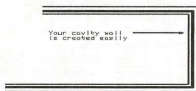

Figure 5
2. Pick the **Exterior** option. This option defines the exterior width, as shown in figure 5. Set the width you desire, such as 6", then press **Enter**.
3. Pick the **Interior** option. This option defines the interior width, as shown in figure 5. Set the width you desire, such as 4", then press **Enter**.
7. Press the right-most button on your mouse (button 3) to exit this menu, returning to the Architect menu and draw your walls as before, this time noting that your walls are drawn with two interior lines, as shown in Figure 5.